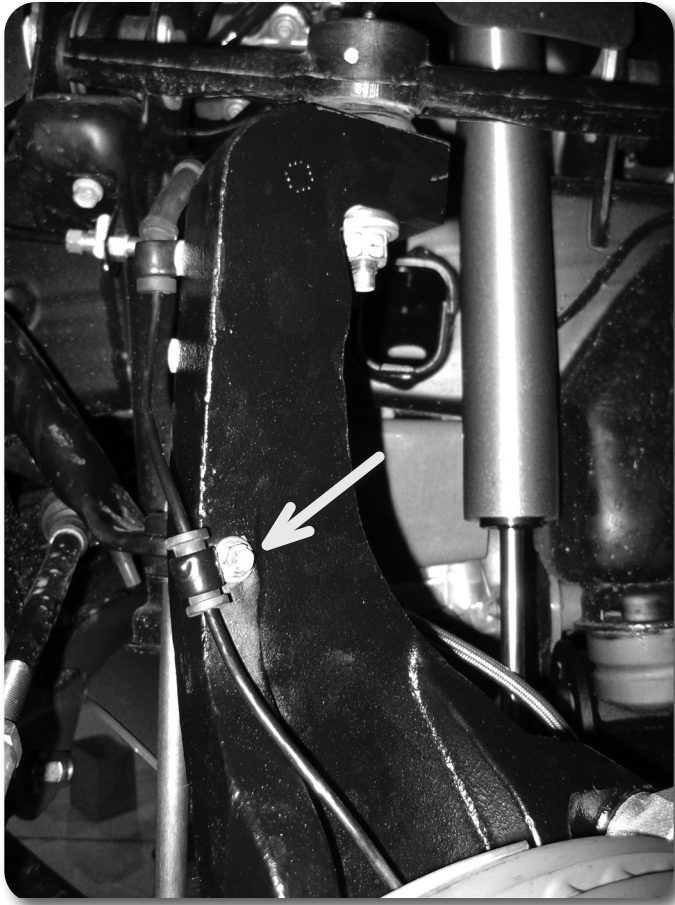

Figure 43C
66. On the front side of the steering knuckle there is a small threaded hole. Using a third wire clamp, fasten the ABS wire to the front face of the knuckle with a 1/4" x 5/8" bolt, flat washer and lock washer. Tighten securely. **Figure 43C** Adjust the slack in the two other lines, rotating the steering knuckle back and forth as a check, and tighten the upper two clamps to 10 ft-lbs.